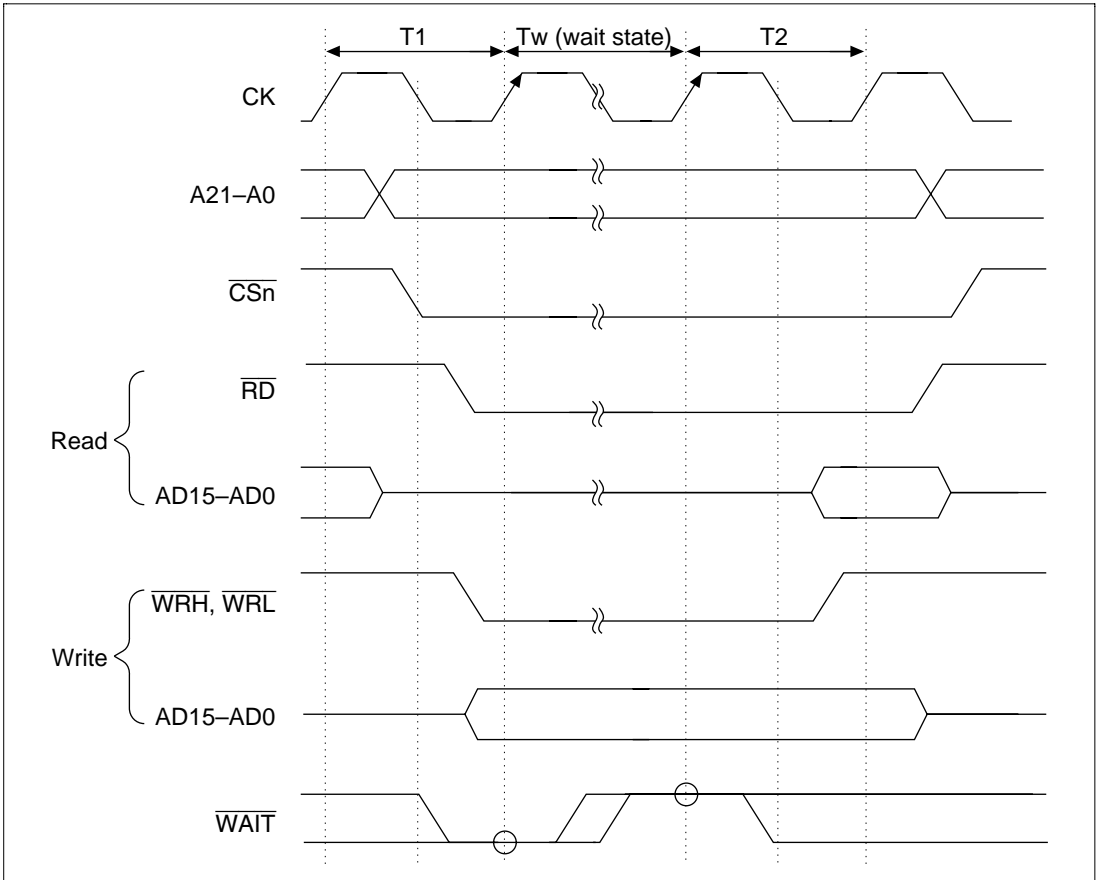
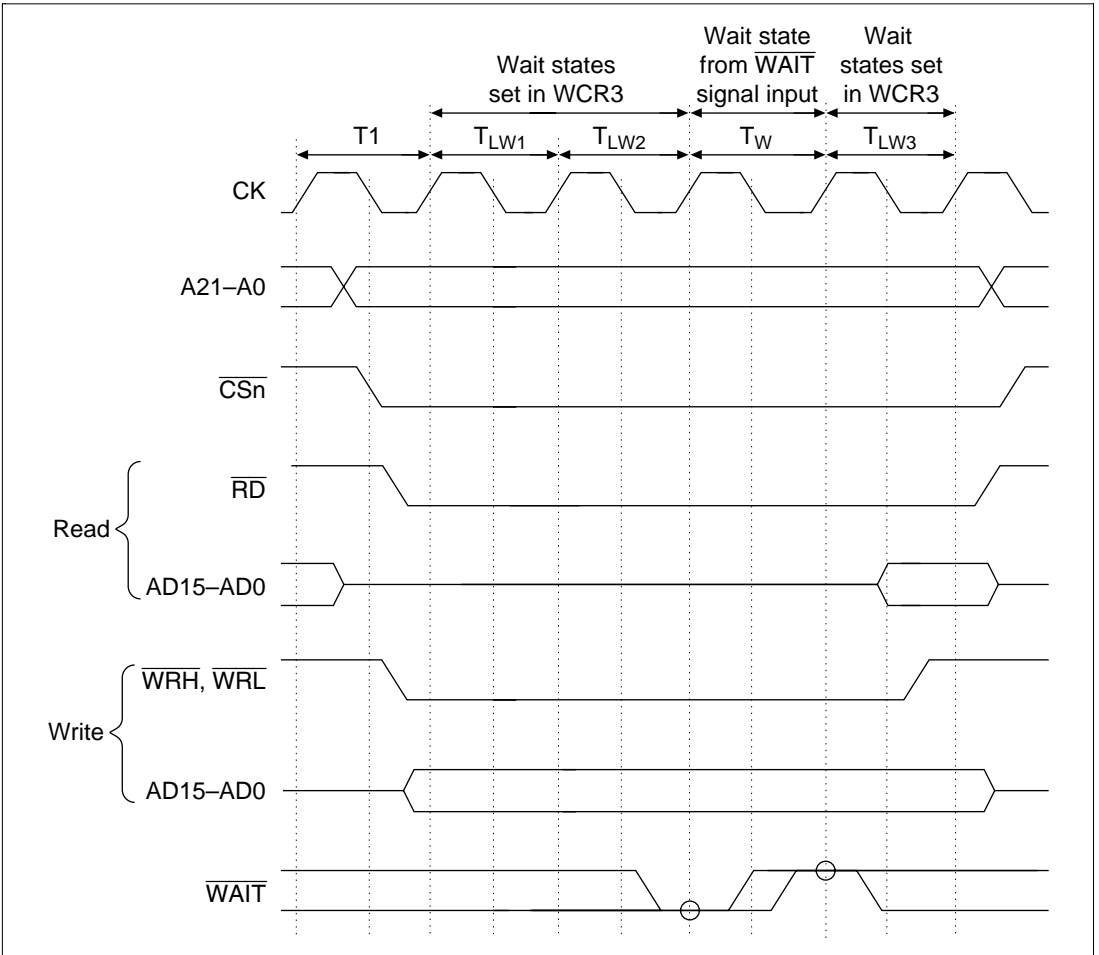

Figure 8.13 Wait State Timing for External Memory Space Access (2 States Plus Wait States from $\overline{\text{WAIT}}$ Signal)
Figure 8.14 Wait State Timing for External Memory Space Access (1 State Plus Long Wait State (When Set to Insert 3 States) Plus Wait States from WAIT Signal)
For the CPU read cycle, DMAC dual mode read cycle, and DMAC single mode read/write cycle, the access cycle is completed in 1 state when the corresponding bits of WCR1 and WCR2 for areas 1, 3–5, and 7 are cleared to 0 and the $\overline{\text{WAIT}}$ pin input signal is not sampled. When the bits are set to 1, the $\overline{\text{WAIT}}$ signal is sampled and the number of states is 2 plus the number of wait states set by the $\overline{\text{WAIT}}$ signal. The $\overline{\text{WAIT}}$ signal is sampled at the rise of the system clock (CK) directly preceding the second state of the bus cycle and the wait states are inserted as long as the level is low. When a high level is detected, it shifts to the second state (final state). Figure 8.13 shows the wait state timing when accessing the external memory spaces of areas 1, 3, 4, 5, and 7.
Areas 0, 2, and 6 have long wait functions. When the corresponding bits in WCR1 and WCR2 are cleared to 0, the access cycle is 1 state plus the number of long wait states (set in WCR3, selectable between 1 and 4) and the $\overline{\text{WAIT}}$ pin input signal is not sampled. When the bits are set to 1, the $\overline{\text{WAIT}}$ signal is sampled and the number of states is 1 plus the number of long wait states plus the number of wait states set by the $\overline{\text{WAIT}}$ signal. The $\overline{\text{WAIT}}$ signal is sampled at the rise of the system clock (CK) directly preceding the last long wait state and the wait states are inserted as long as the level is low. When a high level is detected, it shifts to the final long wait state. Figure 8.14 shows the wait state timing when accessing the external memory spaces of areas 0, 2, and 6.
For CPU write cycles and DMAC dual mode write cycles to external memory space, the number of states and wait state insertion cannot be controlled by WCR1. In areas 1, 3, 4, 5, and 7, the $\overline{\text{WAIT}}$ signal is sampled and the number of states is 2 plus the number of wait states set by the $\overline{\text{WAIT}}$ signal (figure 8.13). In areas 0, 2 and 6, the number of states is 1 state plus the number of long wait states plus the number of wait states set by the $\overline{\text{WAIT}}$ signal (figure 8.14). Do not write 0 in bits 7-2 and 0 of WCR1; only write 1. When area 1 is being used as external memory space, do not write 0 in bit 1 (WW1); always write 1.